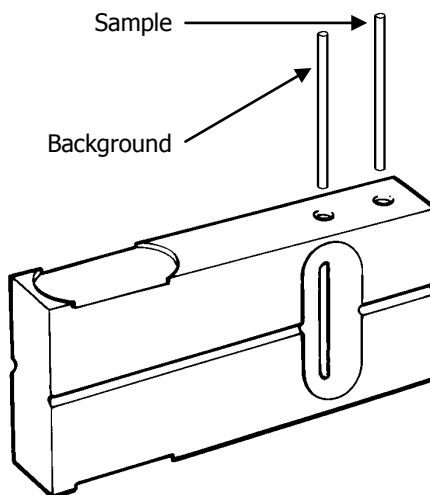

Figure 19 Background and sample positions for the abrasive sticks
3. Put a clean abrasive stick in the background (front) hole in the sample holder (Figure 19).
4. Put the stick that you have collected your sample on into the sample (rear) hole in the sample holder (Figure 19).